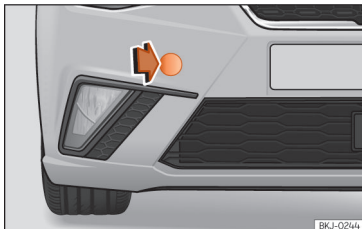

Fig. 45 Right side of the front bumper: remove the cover.
The housing of the removable towline anchorage is on the right side of the front bumper underneath a cover »» Fig. 45.
- Remove the cover by pressing down on its left-hand side and leave it hanging from the vehicle »» Fig. 45.